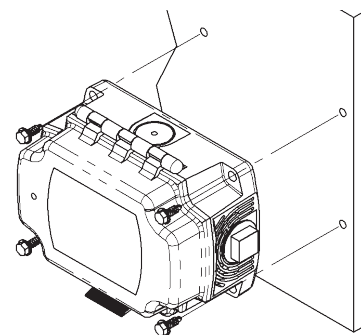

Figure 3: Rough service unit mounting
1. Mount the unit on a solid, non-vibrating surface 3 to 5 feet above floor level. Mount in a horizontal orientation with the enclosure hinge at the top as shown in Figure 3. Failure to do so may degrade the life of the CO sensor module. Do not mount near supply or return diffusers.